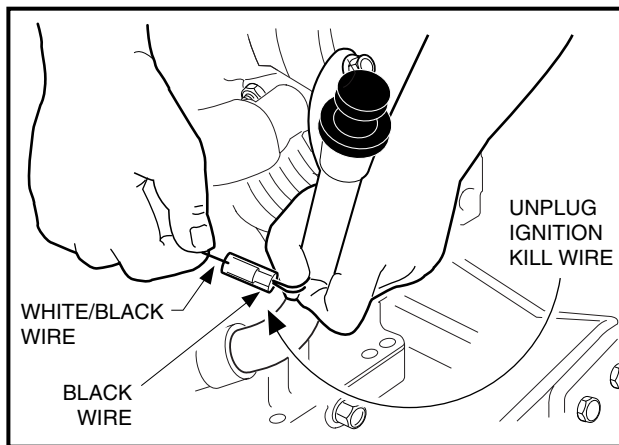

FIGURE 10-19
- 2.10. Disconnect the engine kill switch wire (18 gauge white/black stripe) from the bullet connector at the lower right front of the engine (**Figure 10-19**).